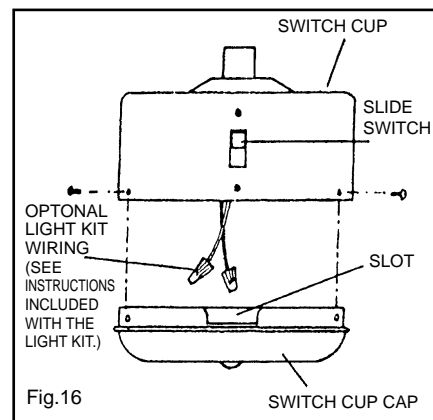

Fig.16
Step 3. Secure the cap to the switch cup using screws removed earlier. (Fig. 16)